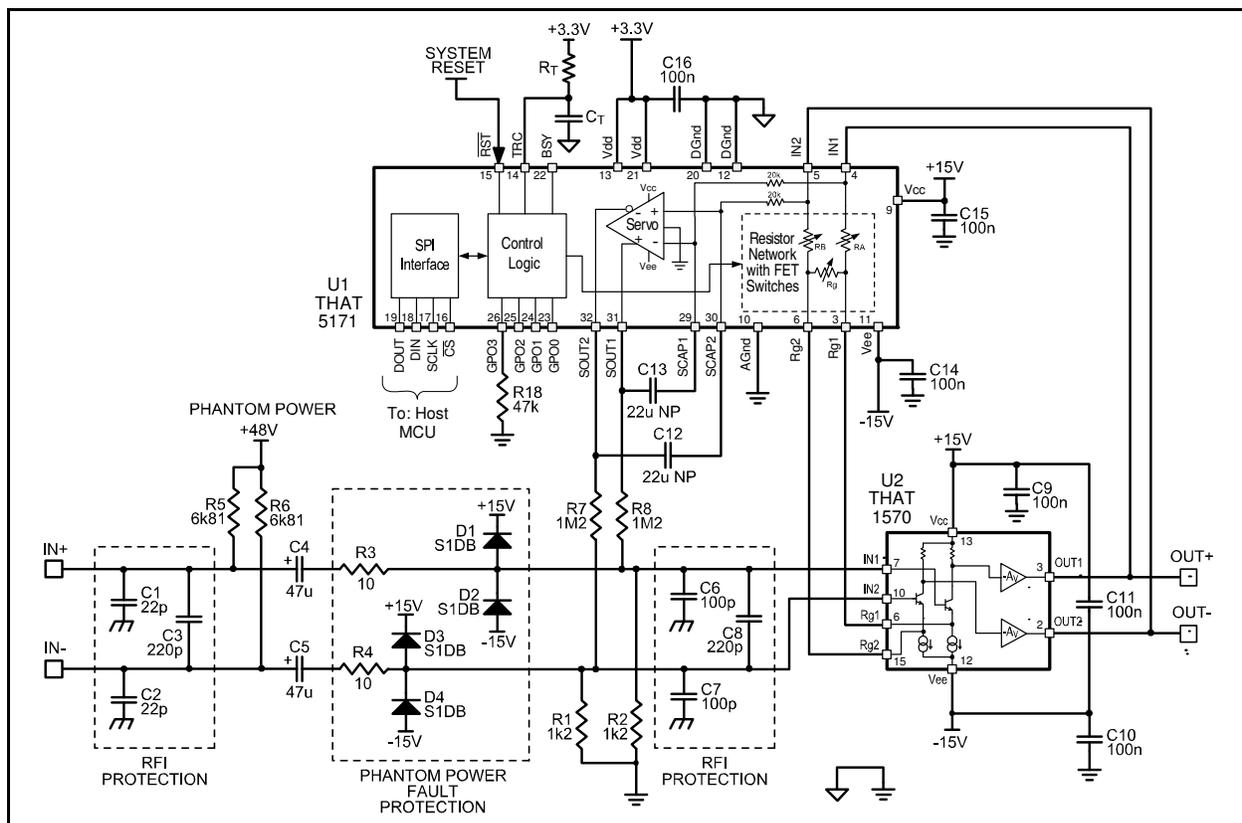
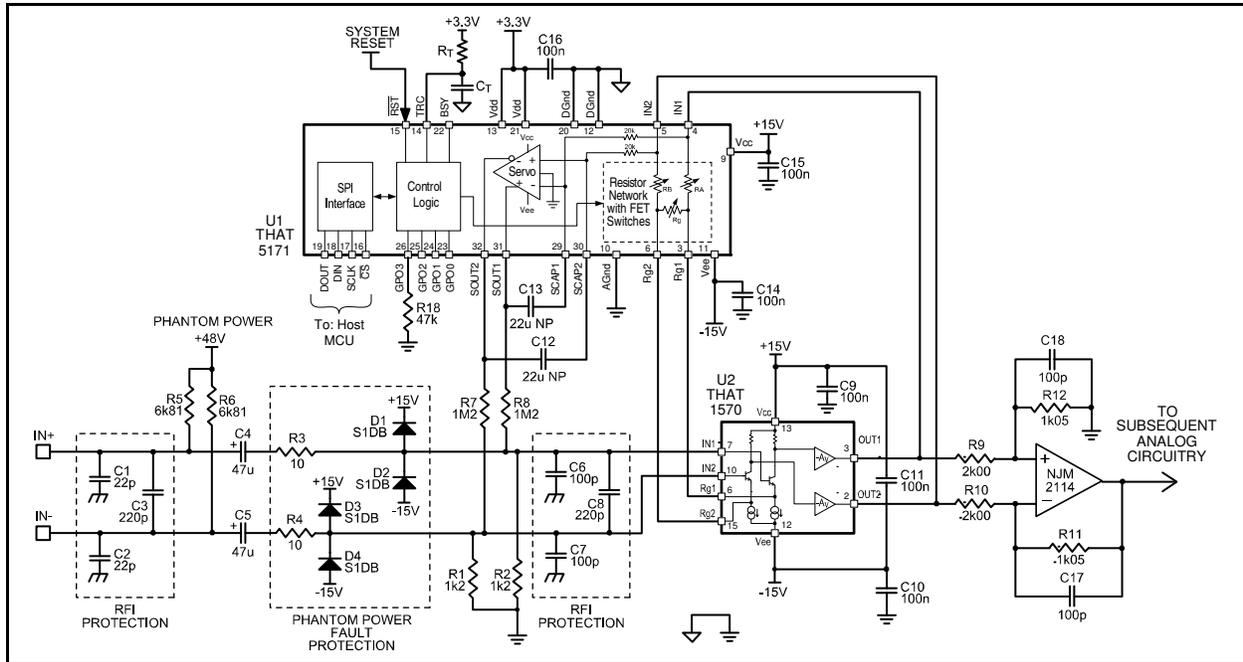

Figure 3. 5171/1570 basic application circuit.
Figure 4. 5171/1570 typical application with single-ended output.
A built-in zero-crossing detector can be used to restrict gain changes to times when the analog signal is very close to zero. The detector monitors the differential signal present between the IN₁ and IN₂ pins of the 5171. When enabled, it permits gain changes to take place only when the signal is within $\pm 5mV$. A timeout (set by external components R_T and C_T in figures 3~6) ensures that a gain change will always occur at the expiration of the timeout, in case the signal has not gotten within the voltage window by that time.
The combination of the input coupling capacitors (C₄ and C₅ in Figures 3~6), the bias resistors for the 1570 (R₁ and R₂ – which form a load for C₄ and C₅), and the servo, form a 2nd order highpass filter whose characteristics change with the gain setting. The Q of this filter is highest at the highest gain setting. (At low gains, the behavior is governed almost entirely by the input coupling network and bias resistors, since the poles split and the one related to the servo moves very low.) Assuming 1.2k Ω for R₁ and R₂, and 1.2M Ω for R₇ and R₈, we can set the highest Q to be about .63 (for approximately Butterworth response) if we choose C₁₂ and C₁₃ to be 1/2 the values of C₄ and C₅.
The circuit of Figure 3 shows the most basic application of the 5171 and 1570 to form a complete low-noise microphone preamplifier.
The circuit of Figure 3 offers differential gain that varies from 5.6 to 68.6dB. There is one large ~8dB step from 5.6dB to 13.6dB. Above 13.6dB, gain may be controlled in 1dB steps to +68.6dB. For single-ended analog outputs, the circuit of Figure 3 can be followed by a differential-to-single-ended converter, as shown in Figure 4. Here, the differential amplifier is configured for -5.6dB gain in order to minimize noise and maximize headroom at the output of the circuit. Including the 5.6dB attenuation in the differential amplifier, the system gain can be set to 0dB, or any gain from +8dB to +63dB in 1dB steps.
With the circuit of Figure 4, the maximum input signal levels remain the same, but the (now single-ended) output levels drop by 5.6dB due to the loss of the differential amplifier. When converting to single-ended signals, take care to select a low-noise opamp, and pay attention to the noise generated by the impedances. The component values shown in Figure 4 will largely preserve the dynamic range of the 1570 and 5171 combination, though they do compromise noise by 1dB at the lowest gain settings.
The circuits of Fig 3 through 6 include RFI protection in two sections. Small capacitors (C_1 and C_2) are used from the positive and negative signal inputs to chassis ground, along with a larger capacitor (C_3) across the two inputs. These components should be located as close as possible to the input signal connector, and are intended to prevent RF from entering the chassis of the device.
- 2) **ZERO-CROSSING Mode:** Updates are made on the next output signal zero-crossing after a rising edge on the /CS pin. An RC time constant connected to the TRC pin (R_T/C_T in Figures 3~6) establishes a time-out period in case a zero-crossing does not occur within a desired time window. The zero-crossing time-out function operates as follows: